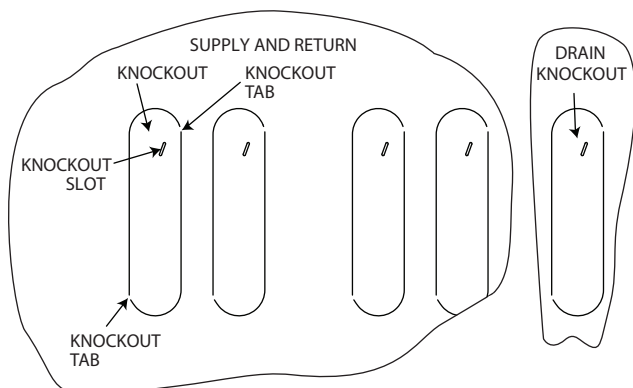

Fig. 18 — Remove 42SU Unit Knockouts
- Insert a flat head screw driver into knockout slot shown in Fig. 18.